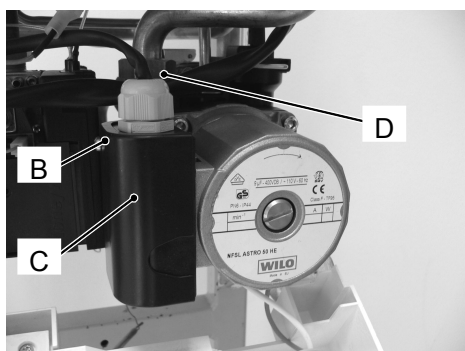

Figure 3
- 4) Unscrew the screw B and remove the black case C (Figure 3).
- 5) Loosen the connections D (Figure 3).